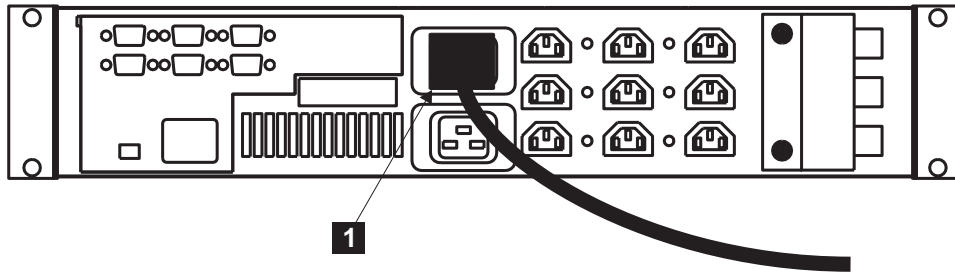

Figure 34. Installing the 2145 UPS power cable
9. At the back of the 2145 UPS, plug the 2145 UPS main power cable (**1** in Figure 34 on page 46) into the power socket.